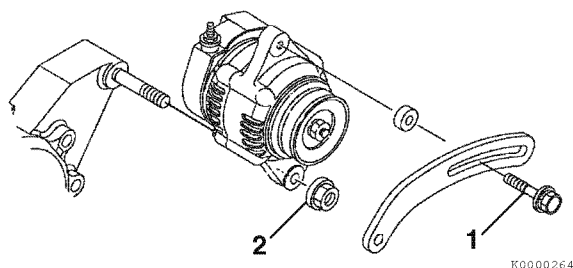

Figure 11-19
1. Position the alternator on the gear case. Loosely reinstall the nut (2, **Figure 11-19**) on the gear case stud and the V-belt adjuster bolt (1, **Figure 11-19**).